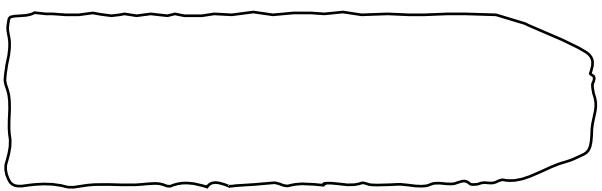

Fig. M9
3. If the envelope is as shown in Fig. M7, adjust the height of Guide Roller [2] (Refer to Fig. M3) so that the waveform looks like the one shown in Fig. M9.
4. If the envelope is as shown in Fig. M8, adjust the height of Guide Roller [3] (Refer to Fig. M3) so that the waveform looks like the one shown in Fig. M9.
5. When Guide Rollers [2] and [3] (Refer to Fig. M3) are aligned properly, there is no envelope drop either at the beginning or end of track as shown in Fig. M9.